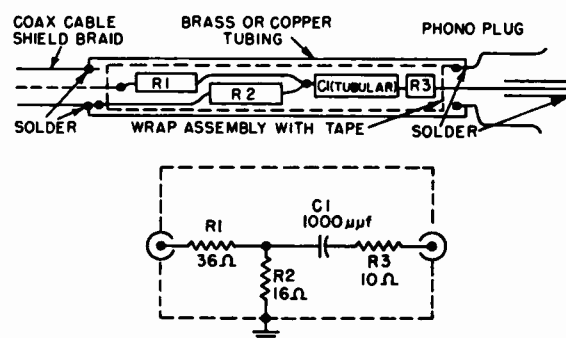

FIG. 1. IF INJECTION NETWORK
6. Inject signals from a properly terminated AM signal generator or a sweep generator through the network in Fig. 1 to the I-F injection jack\* on the VHF tuner.
\* NOTE: The I-F injection jack is not a phono type receptacle. The connection is made by the end of the phono plug touching the contact inside the injection jack. The outside of the plug grips the injection jack firmly. Press the plug firmly into place without excess pressure. See Fig. 1 for the plug construction.